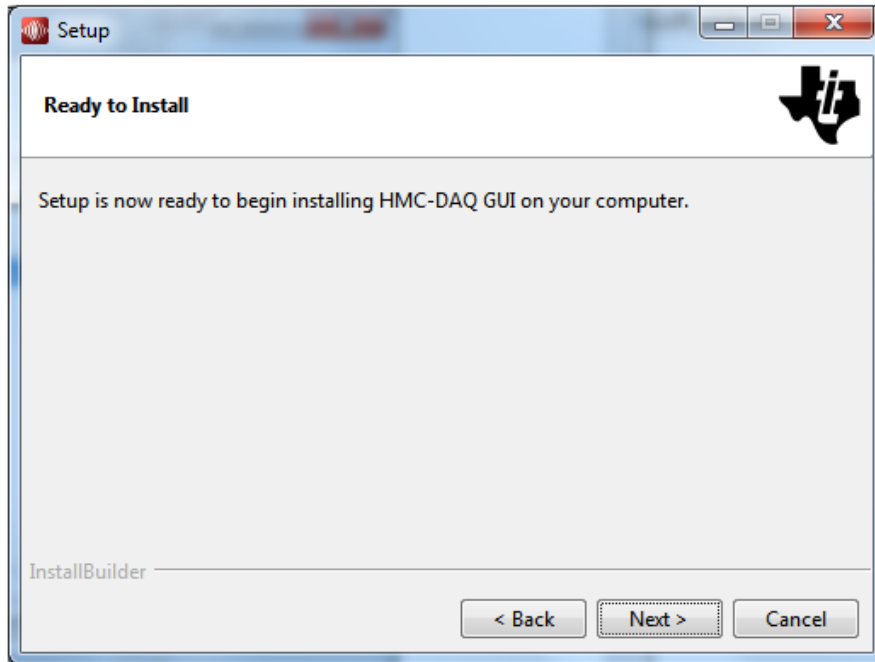

Figure 38. HMC-DAQ GUI Install (Installation Ready)
- Pressing the *Next* button begins installation, as shown in Figure 38.